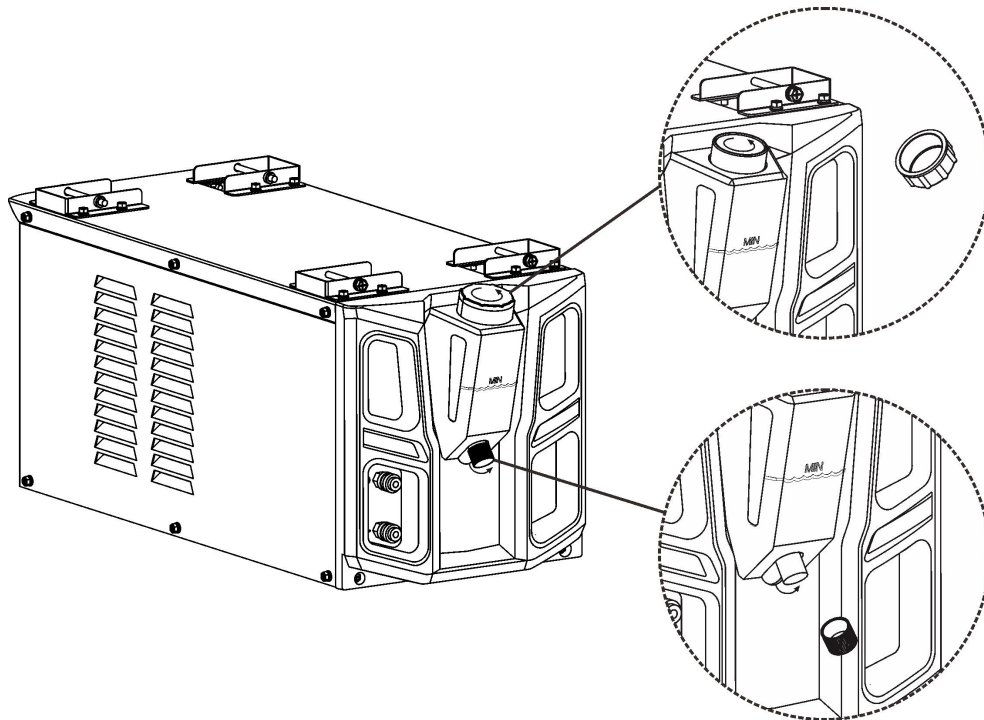

Figure 3-2 Water injection/drainage diagram
2. When draining, open the lid from the bottom of water cooler. After draining, tighten it, as shown in figure 3-2.